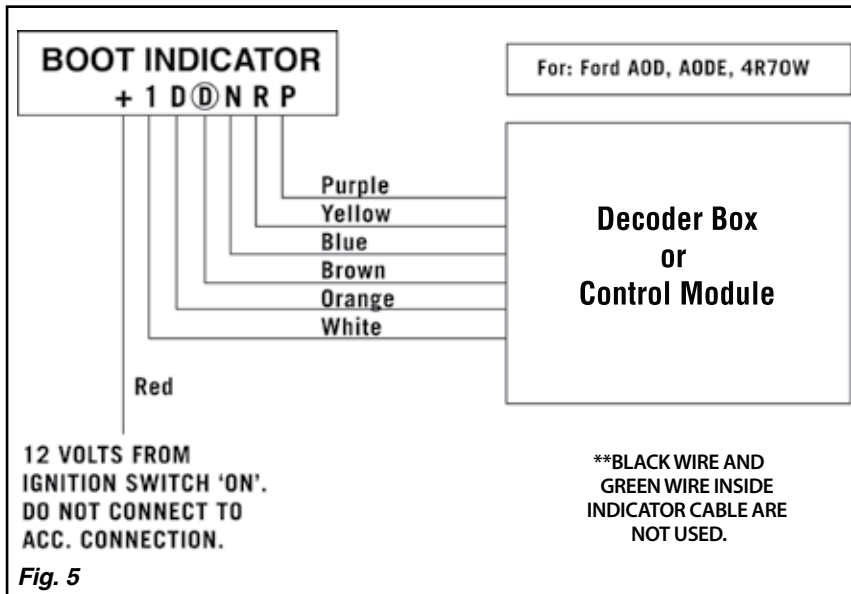
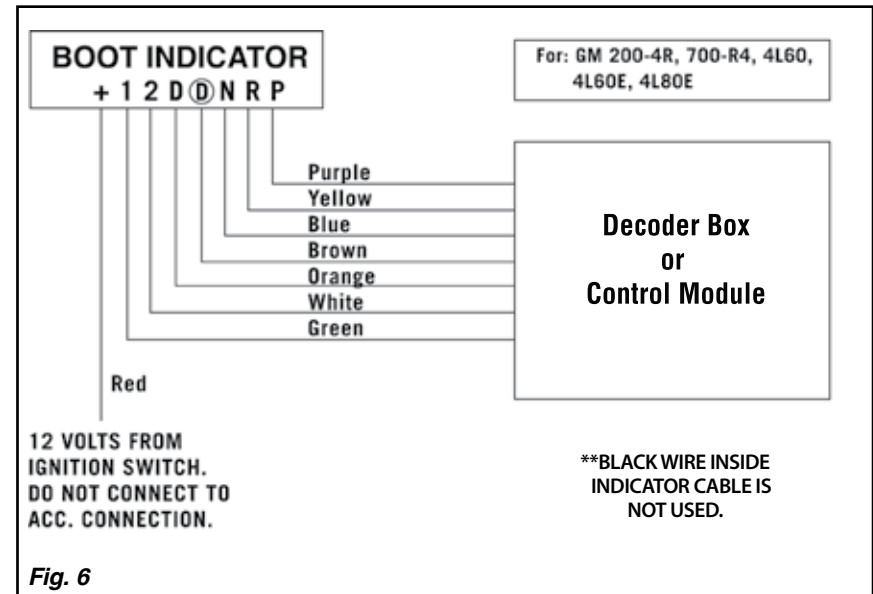

Fig. 5
Fig. 6
Step 10: Use the appropriate transmission wiring diagram to connect the indicator wiring harness to the decoder box or control module. *Fig. 4, Fig. 5, or Fig. 6* Make sure the wires are not routed next to any sharp edges.